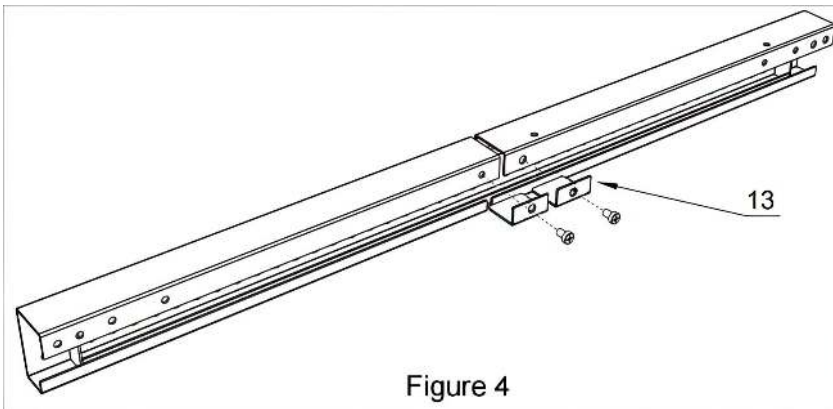

Figure 4
4. Place two Limit parts(#13) on Corner Brackets,Tighten the M5*10 Cross head screws(⊗) using Electric screwdriver. (Figure 4)